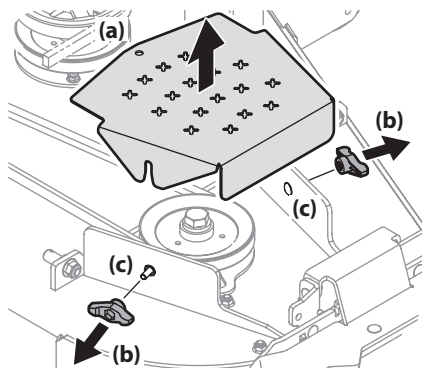

Figure 55
3. To remove the belt covers (a), remove the wing knobs (b) from the carriage screws (c) securing it to the deck. See Figure 55.
4. The speed nut should hold the carriage screw (c) and tab bolt in place, if not re-install as shown in Figure 55.